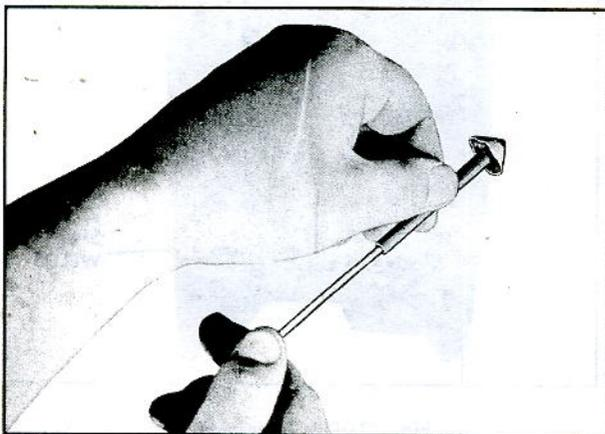

Fig. 16—Preparing Plug for Use
5. Prepare the plug for insertion into nozzle of the plug-insertion tool by pulling white stem of plug in metal tube until the head of the plug is seated tightly against the end of the tube (fig. 16). Cut off protruding end of plug stem.